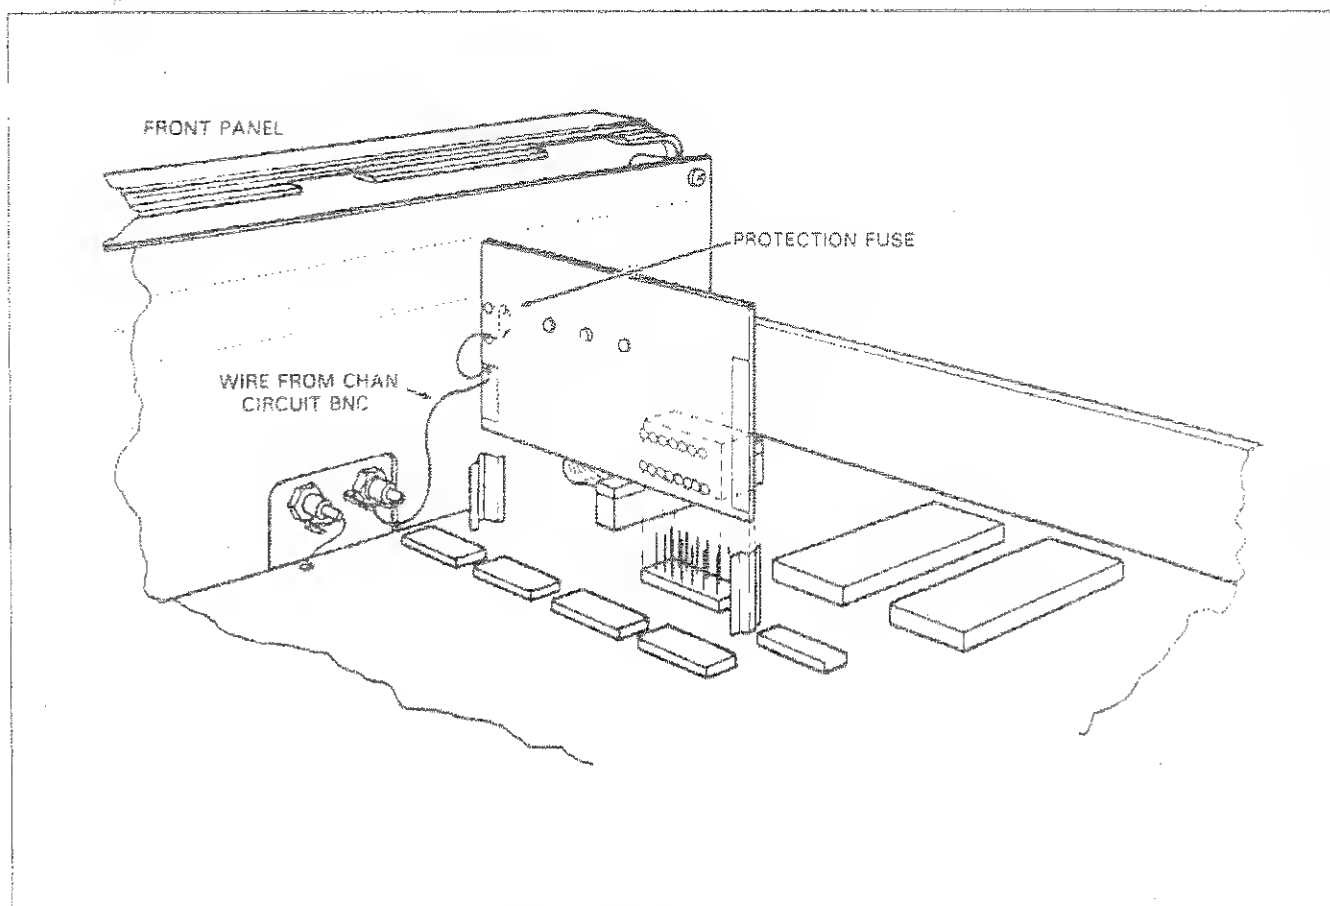

Figure 6-2. Model 7751 Installation
3. Locate the shielded cable which is connected on one side to the channel C input terminal. The other side of this cable is soldered to one card guide to prevent this end from rattling inside the instrument and causing shorts. Unsolder the shielded cable from the guide and solder the prestripped cable as illustrated in Figure 6-2.